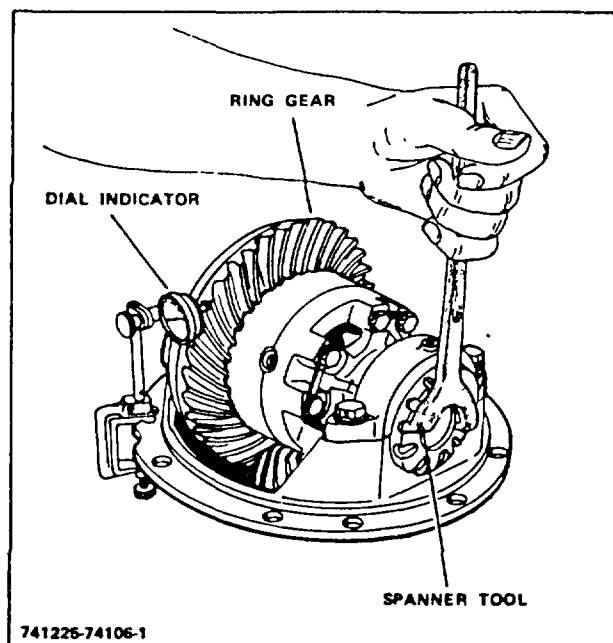

Figure 3-9. Checking Backlash
1. Install a dial indicator (Fig 3-9) to the differential housing.